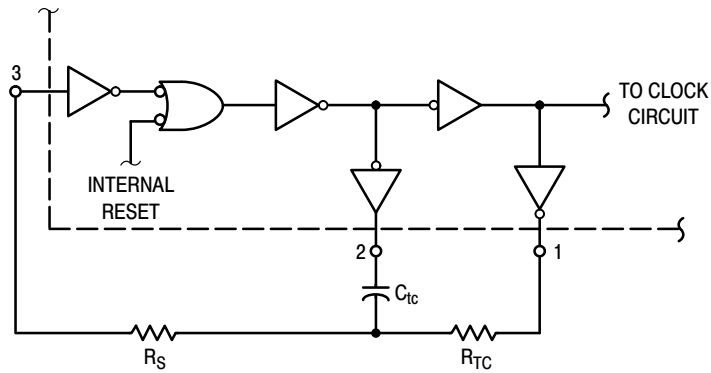

Figure 3. Oscillator Circuit Using RC Configuration
4. When using the on chip oscillator the total supply current (in µAdc) becomes: I_T = I_D + 2 C_{tc} V_{DD} f x 10⁻³ where I_D is in µA, C_{tc} is in pF, V_{DD} in Volts DC, and f in kHz. (see Fig. 3) Dissipation during power-on with automatic reset enabled is typically 50 µA @ V_{DD} = 10 Vdc.
The RC oscillator as shown in Figure 3 will oscillate with a frequency determined by the external RC network i.e.,